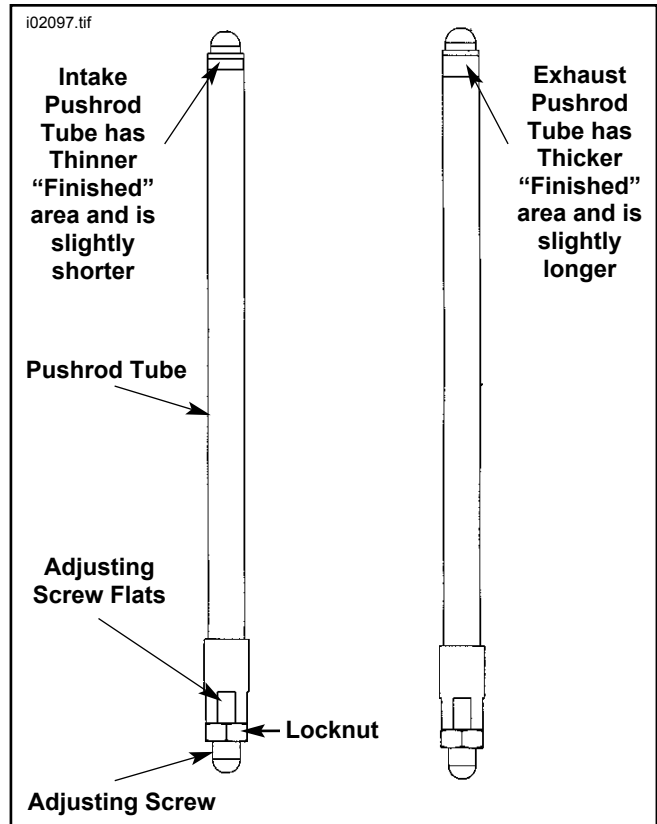

Figure 1. Adjustable Push Rod
5. See Figure 1. Loosen locknut on all of the pushrods and adjust them to their shortest length.
See Figure 1. In Step 6, pushrods with the Thinner "Finished" area on the tubes must be installed to the Intake location on the cylinders; pushrods with the Thicker "Finished" area on the tubes are slightly longer and must be installed to the Exhaust locations on the cylinders.
- 2A. See Figure 1. With the pushrod tube kept from rotating with a 1/2 inch or adjustable wrench, slowly turn the adjusting screw with a 5/16 in. wrench, 2-1/2 complete turns counter clockwise (lengthening the pushrod) as viewed from the bottom. (You may wish to mark adjuster to aid in counting turns.)